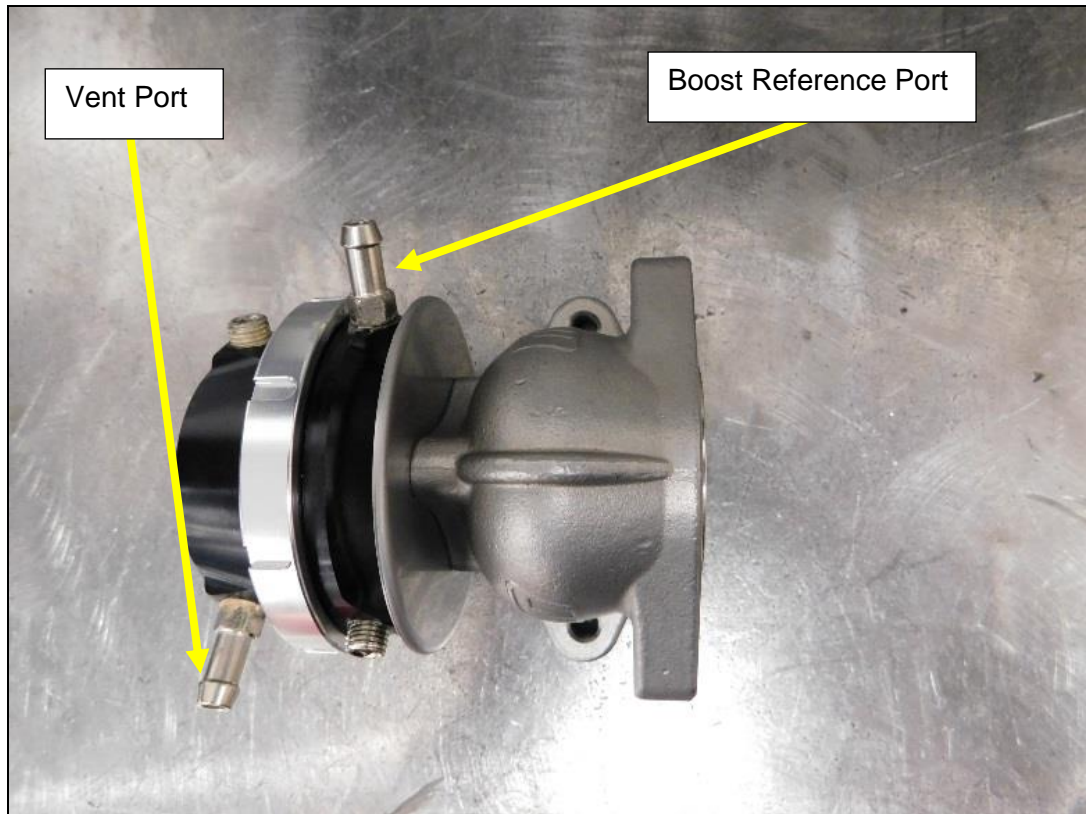

Figure 52
7. Install a hose clamp on each boost reference line and install on to the bottom barbed port of the wastegate diaphragm housing (**Figure 52**).